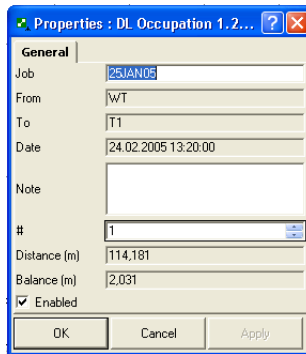

Figure 5-120. General Properties
2. View or edit *General* tab fields. Edit the name, order and note of the job, as needed (Figure 5-120 on page 5-85).
2. View or edit *General* tab fields (see Figure 5-120 on page 5-85). Edit the *Start Point* and *End Point* parameters as needed.